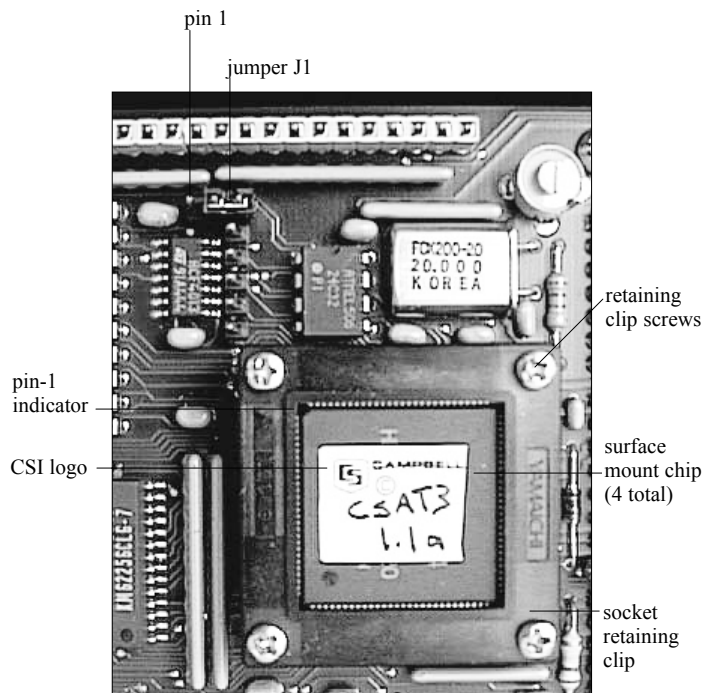

Figure 3. Close up of surface mount chip.
6. Remove the four retaining-clip screws shown in figure 3.
9. You will be replacing the old surface-mount chip shown in figure 3 with the new one. Before removing the old chip, note how it seats in the surface mount socket. Roll a two-inch piece of tape into a loop with the sticky side out. Remove the old surface-mount chip by firmly pressing the sticky side of the tape against the top surface of the old chip, and then remove the old chip by lifting it vertically away from the electronics board.
14. Verify the proper orientation of the new surface-mount chip as shown in figure 3. The Campbell Scientific logo and the pin-1 indicator must be the upper left corner of the chip. Verify that the new chip is seated in the socket.